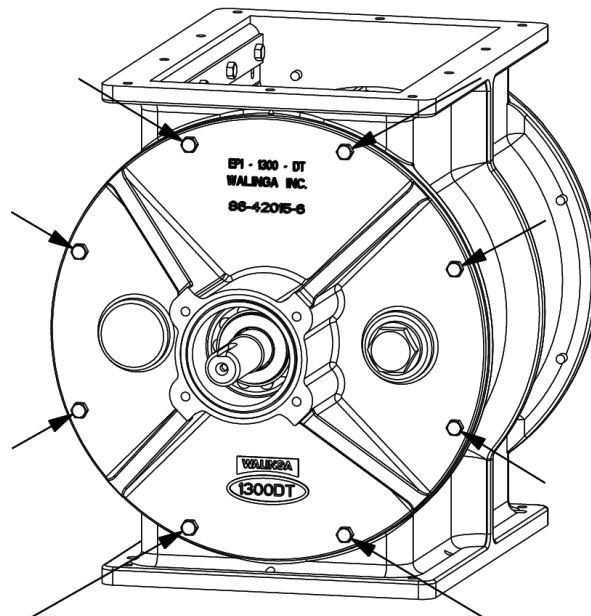

Figure 7-7: Removal of end plate fasteners
17. Position the end plate against the casing and secure in place with the required fasteners, reference **Figure 7-7**. Tighten to the torque specified in **Section 8: Specifications**.
- b. Loosen and remove the fasteners securing the end plate to the casing. Reference **Figure 7-7**.